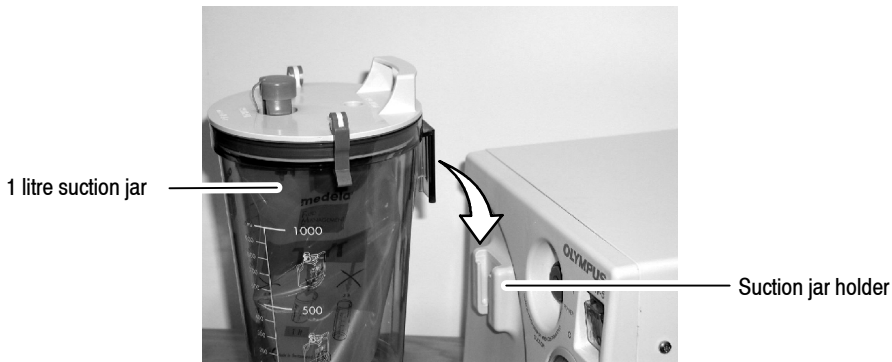

FIGURE 3-1
- (2) Referring to Figure 3-1, locate the suction jar into the suction jar holder located on the front panel of the unit.